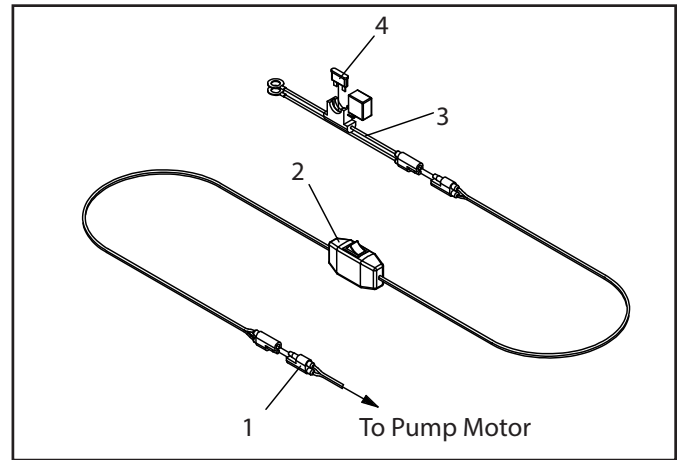

Figure 1: Wiring Harness
1. The wiring harness needs to be connected to a DC power source (vehicle battery) or a power access point providing at least 12 volts & 10 amps of current to the ring terminals on the fuse harness (3) (Figure 1). NOTE: Make sure that the selected power source provides the adequate power requirements as stated above. Inadequate power can cause problems and performance issues with the pump.
2. Connect the red wire to the positive terminal on the vehicle's battery or other alternate power source positive terminal. Proceed to connect the black wire to the negative terminal of the vehicle's battery or a good ground source. NOTE: The fused wire harness (3) (Figure 1) can be unplugged from the switch harness (2) (Figure 8) and be left attached to the battery or power source for convenience purposes.
3. Mount the switch (2) (Figure 1) in a location that is easily accessible for operation on the vehicle. Make sure to secure the switch so that it cannot fall out of place or become entangled and cause damage. NOTE: Use caution when routing the wiring harness to avoid areas where the wires could become pinched, rubbed, or exposed to excessive heat.